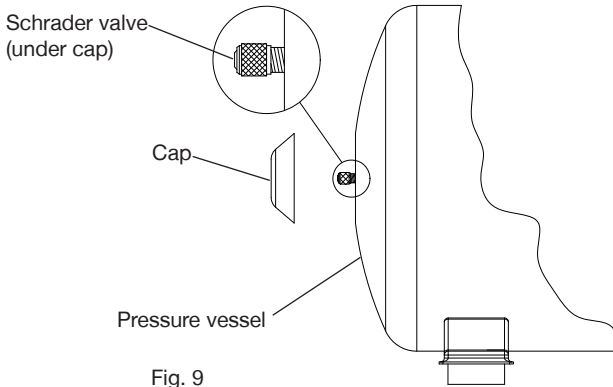

Fig. 9
- e) Check air charge at Schrader valve (Fig. 9) using a tyre pressure gauge.
- f) Replenish air charge by injecting air into the vessel via the Schrader valve using a car or bicycle pump (Fig. 9).